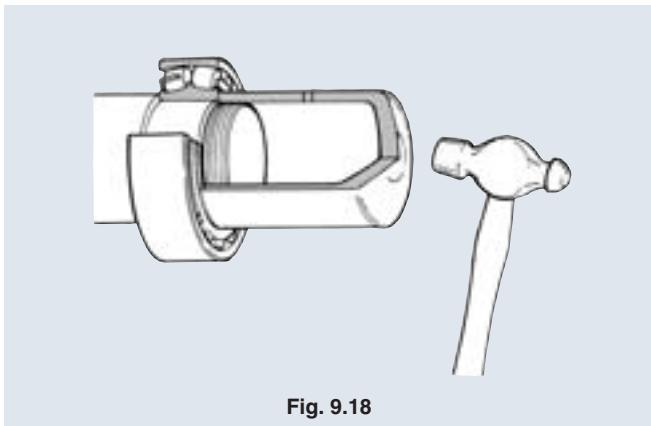

Fig. 9.18
- It is recommended that a small bearing of smaller tightening allowance be press-fitted by forcing a press-fitting jig onto the end face of inner ring. (See **Fig. 9.18.**)